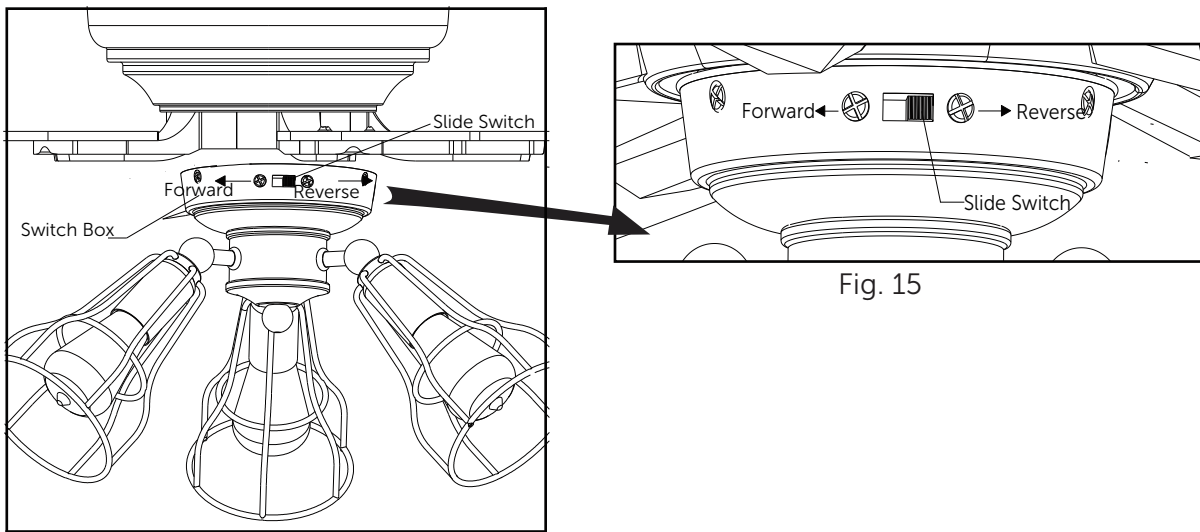

Fig. 15
15. The slide switch on switch box sets direction of fan rotation. Select the desired direction of fan rotation. Push the slide switch left for "Forward" and right for "Reverse" (Fig. 15).